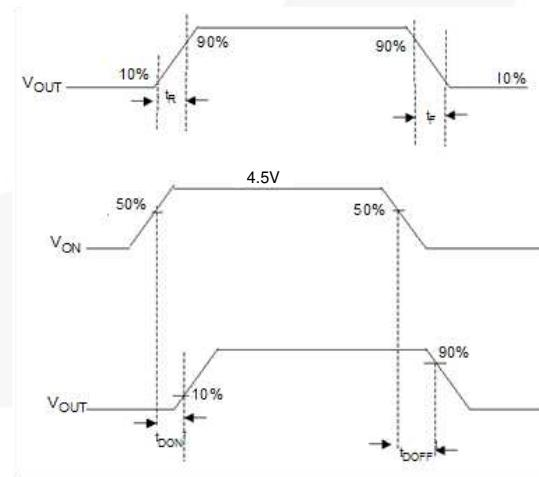

Figure 22. Timing Diagram
8. $t_{DON}/t_{DOFF}/t_R/t_F$ are defined in Figure 22.